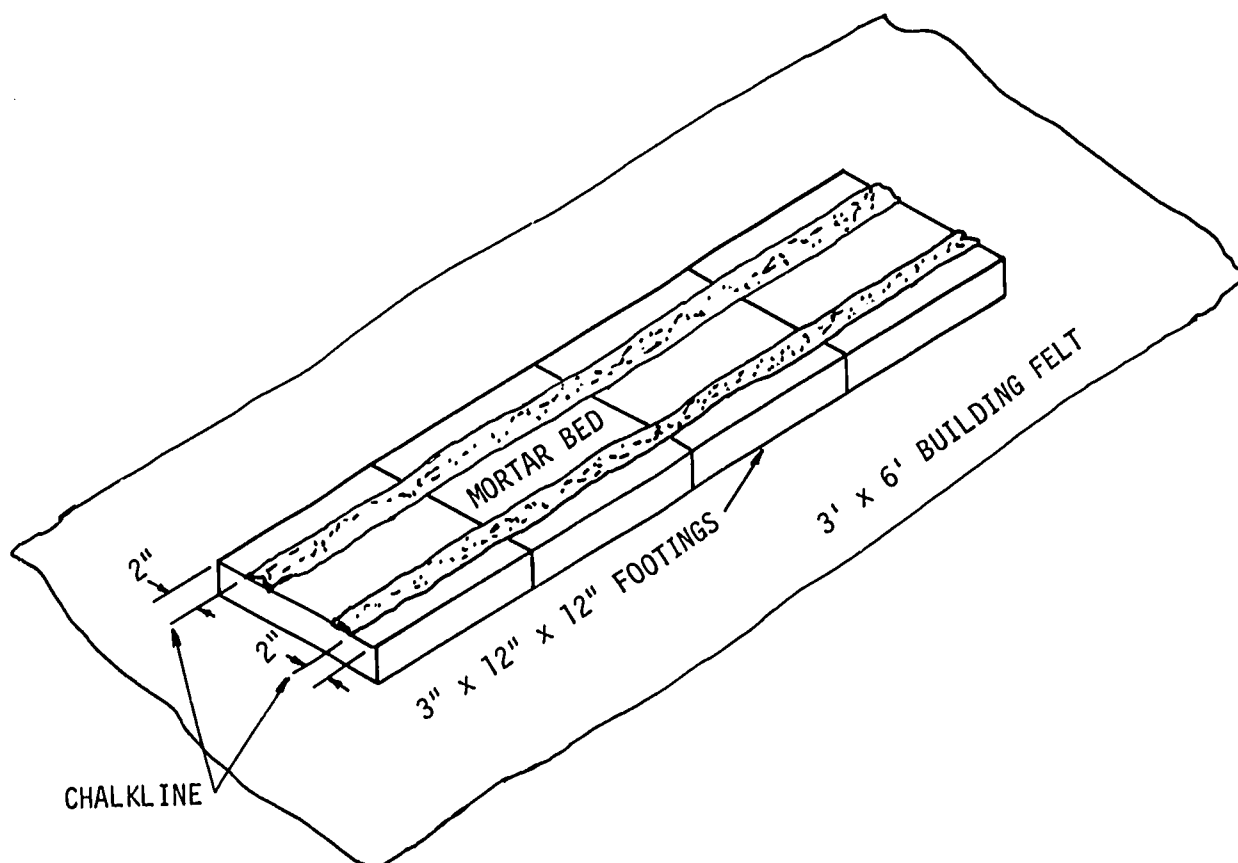

Fig. 44-1. Layout for Mortar Bed
on top of the footing, 2" in from one edge and running parallel to it. See Fig. 44-1. Mark another line 2" in from the opposite edge.
7. Lay a full mortar bed on the footing between the chalk lines as shown in Fig. 44-1.